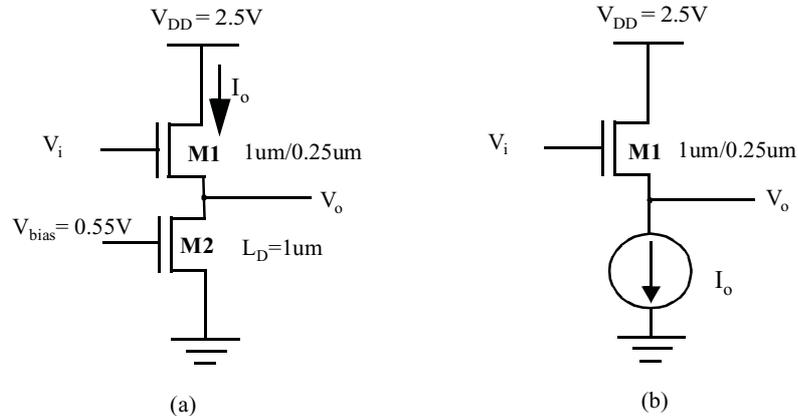

Figure 5.7 NMOS source follower configuration
9. The circuit in Figure 5.7 is known as the *source follower* configuration. It achieves a DC level shift between the input and the output. The value of this shift is determined by the current I_0 . Assume $x_d=0$, $\gamma=0.4$, $2|\phi_{it}|=0.6\text{V}$, $V_{T0}=0.43\text{V}$, $k_n'=115\mu\text{A}/\text{V}^2$ and $\lambda=0$.
- a. Suppose we want the nominal level shift between V_i and V_o to be 0.6V in the circuit in Figure 5.7 (a). Neglecting the backgate effect, calculate the width of M2 to provide this level shift (Hint: first relate V_i to V_o in terms of I_o).
- b. Now assume that an ideal current source replaces M2 (Figure 5.7 (b)). The NMOS transistor M1 experiences a shift in V_T due to the backgate effect. Find V_T as a function of V_o for V_o ranging from 0 to 2.5V with 0.5V intervals. Plot V_T vs. V_o .